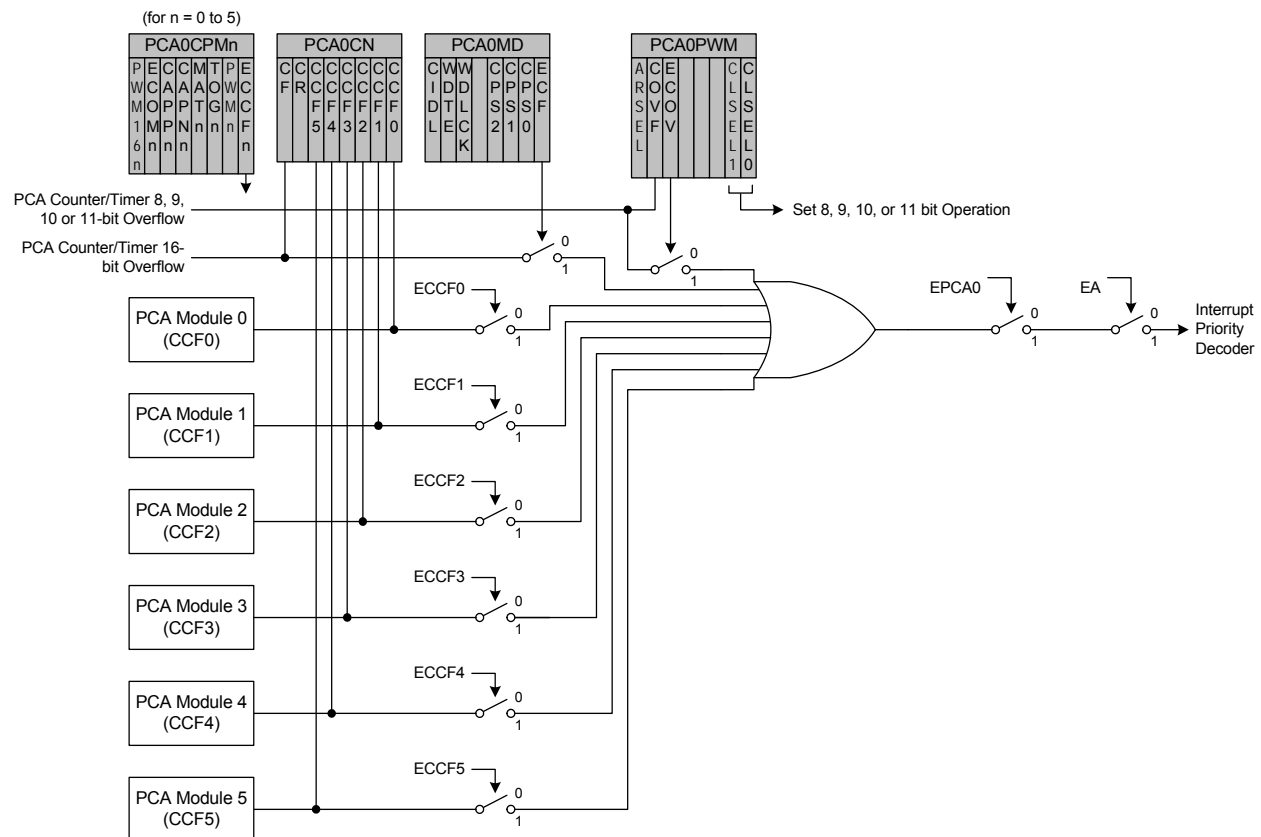

Figure 32.3. PCA Interrupt Block Diagram
Figure 32.3 shows a diagram of the PCA interrupt tree. There are eight independent event flags that can be used to generate a PCA0 interrupt. They are: the main PCA counter overflow flag (CF), which is set upon a 16-bit overflow of the PCA0 counter, an intermediate overflow flag (COVF), which can be set on an overflow from the 8th, 9th, 10th, or 11th bit of the PCA0 counter, and the individual flags for each PCA channel (CCF0, CCF1, CCF2, CCF3, CCF4, and CCF5), which are set according to the operation mode of that module. These event flags are always set when the trigger condition occurs. Each of these flags can be individually selected to generate a PCA0 interrupt, using the corresponding interrupt enable flag (ECF for CF, ECOV for COVF, and ECCFn for each CCFn). PCA0 interrupts must be globally enabled before any individual interrupt sources are recognized by the processor. PCA0 interrupts are globally enabled by setting the EA bit and the EPCA0 bit to logic 1.